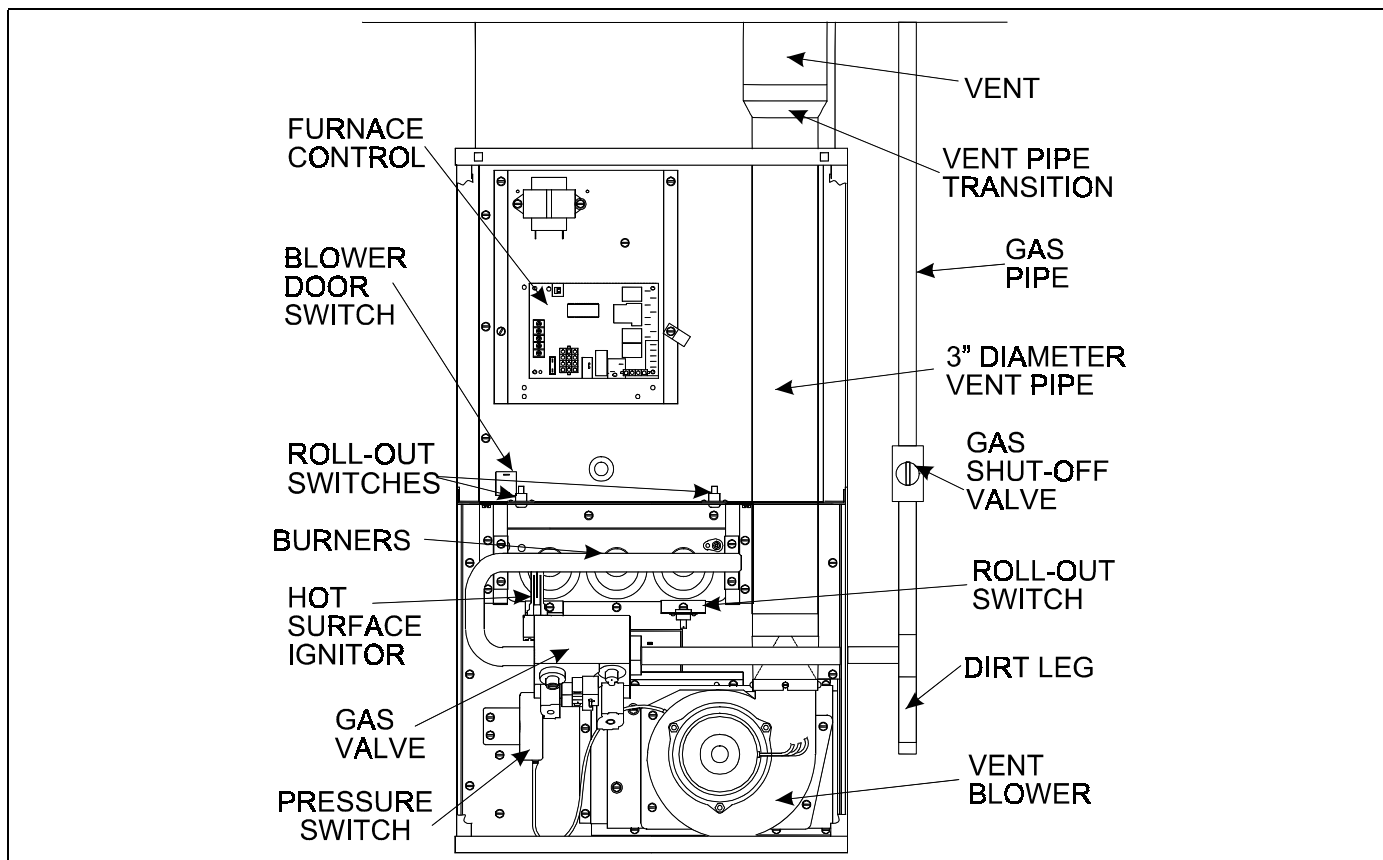
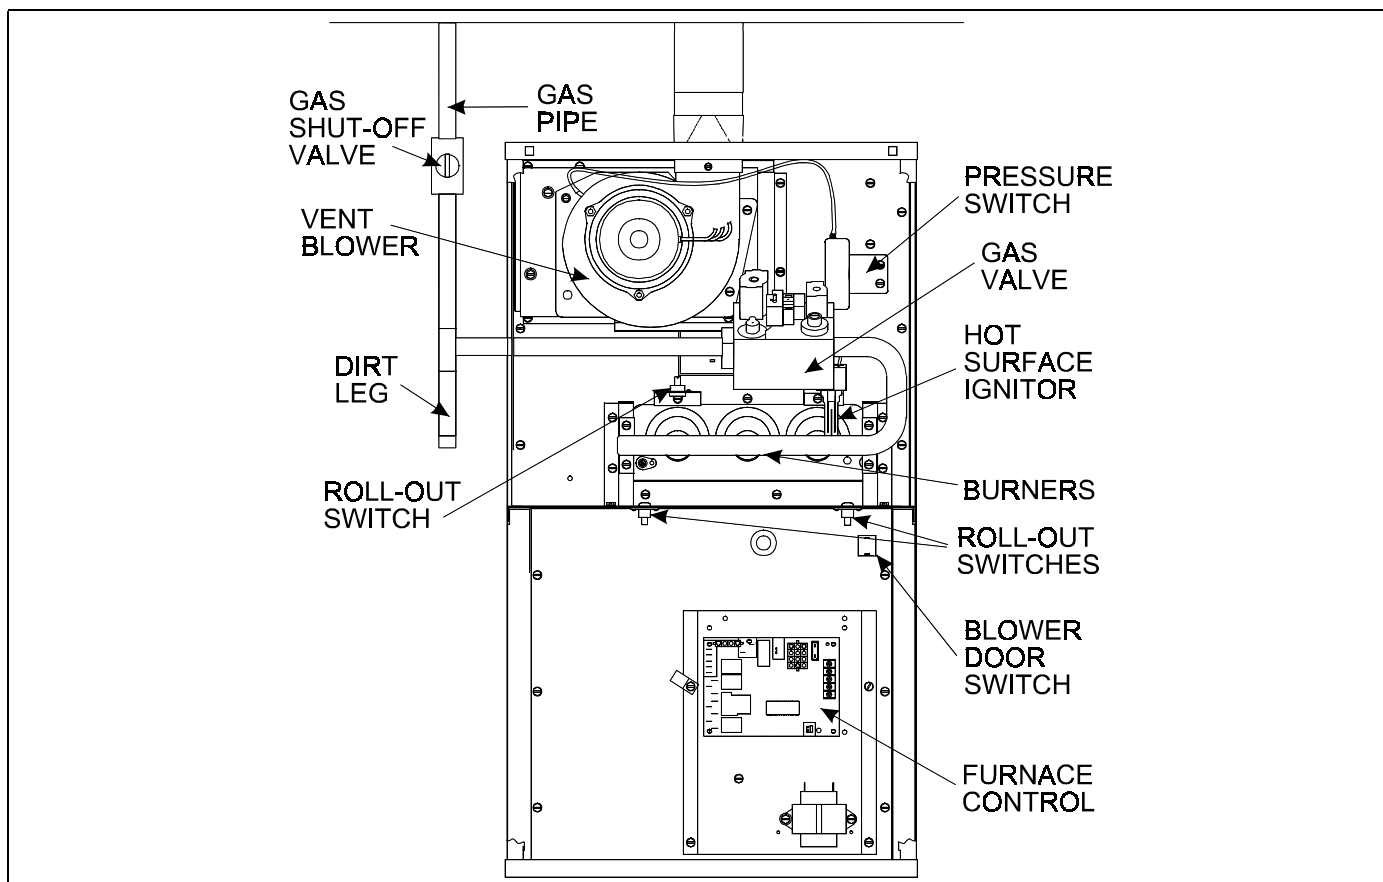

FIGURE 1 – DOWNFLOW POSITION
FIGURE 2 – UPFLOW POSITION
This furnace can be installed in the upflow, downflow, or horizontal position. Figure 1 shows a typical model in the downflow position and figure 2 shows a typical model in the upflow position. The furnace may also lie on either side in a horizontal position. The furnace is equipped with an induced-draft vent blower and atmospheric burners. Combustion air is taken from the space or area in which the furnace is installed and drawn into the burners through the louvers in the front panel. Flue gas is drawn from the furnace by the vent blower and discharged through the flue pipe to the outside atmosphere.
The furnace is equipped with the controls necessary for proper operation. The various components referred to in this manual and on the furnace nameplate are identified in Figures 1 and 2.
6. This furnace is equipped with a BLOWER DOOR SAFETY SWITCH. It is located behind the blower door. See Figures 1 or 2. The switch controls the electrical power to the furnace and prevents the furnace from operating if the blower door is not in place or is improperly installed.
7. This furnace is equipped with three rollout switches, which are designed to shut down the furnace in the event that excessive rollout occurs. These switches are located near the burners as shown in Figures 1 or 2. If any of these switches shuts down the furnace, do not attempt to restart it. Call a service technician to correct the problem.